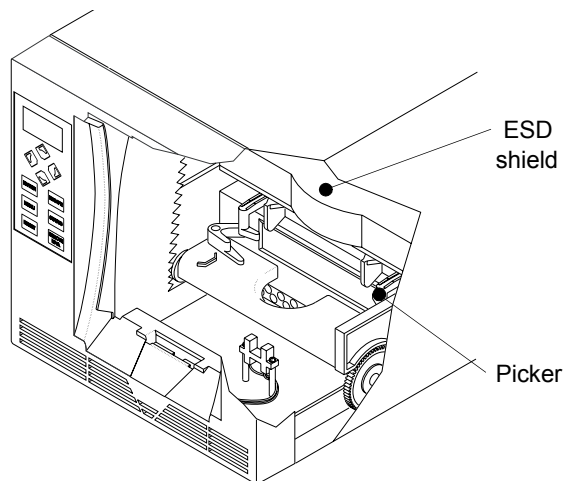

Figure 7-3 Proper position of picker for shipping
- b. Make sure the picker cannot be pushed any further and that it is under the robot's ESD shield (see Figure 7-3).